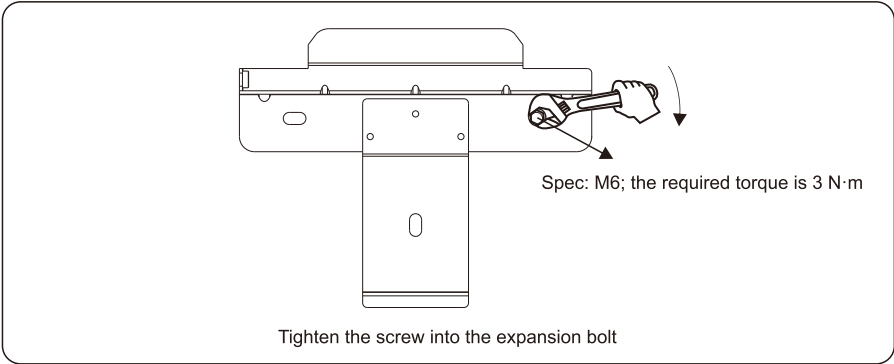

Figure 4.13 Securing a rear panel
Step 5 Align the rear panel with the holes, insert expansion bolts into the holes through the rear panel, and tighten the expansion bolts to a torque of 3 N·m using a torque wrench, as shown in Figure 4.13.